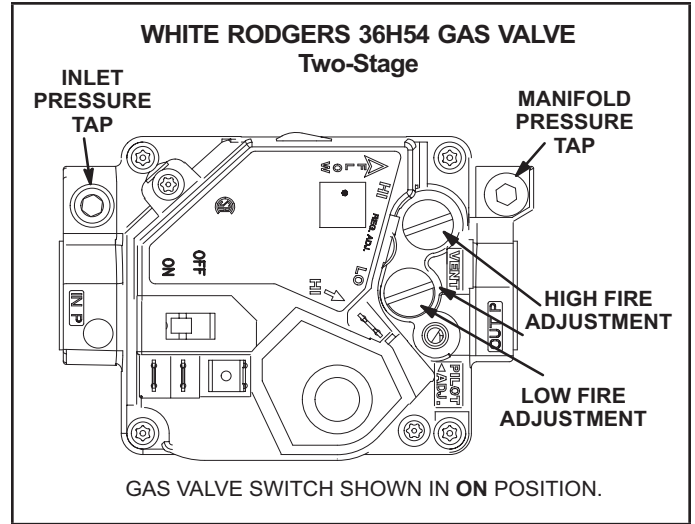
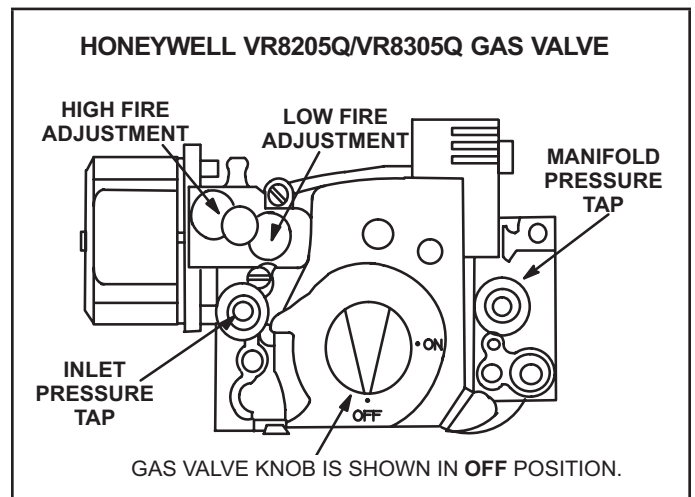

FIGURE 23
FIGURE 24
Gas Valve Operation for Honeywell VR8205Q/VR8305Q and White Rodgers 36H54 (FIGURE 23 and FIGURE 24).
- 6 - Turn gas valve switch to **OFF**. See FIGURE 23. On Honeywell VR8305Q gas valves, turn the knob on the gas valve clockwise to **OFF**. Do not force. See FIGURE 24.
- 7 - Wait five (5) minutes to clear out any gas. If you then smell gas, **STOP!** Immediately call your gas supplier from a neighbor's phone. Follow the gas supplier's instructions. If you do not smell gas, go to the next step.
- 8 - Turn gas valve switch to **ON**. See FIGURE 23. On Honeywell VR8305Q gas valves, turn the knob on the gas valve counterclockwise to **ON**. Do not force. See FIGURE 24.